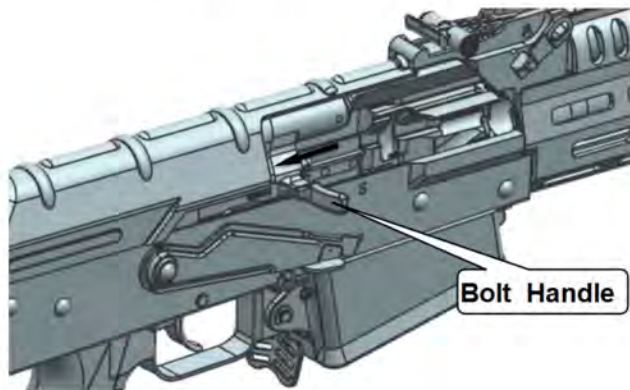

Fig. 10 Pulling Bolt to Check If There Is Any Cartridge in Chamber
4.1.1.2. Pull the bolt backward and check if there is any cartridge inside the chamber (see Fig. 10).